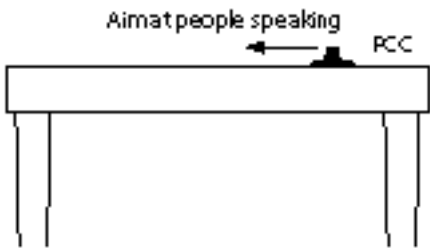

Fig. 17
- Place a PCC on the altar table as in Fig. 17. The PCC is available in black or white.